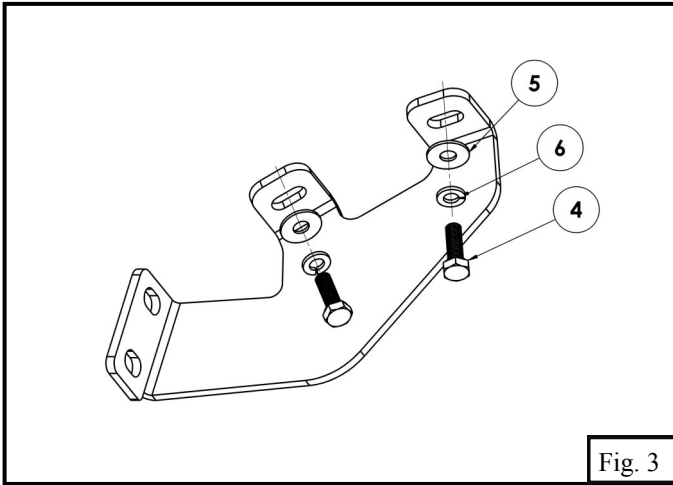

Fig. 3
3. Locate Front Mount Bracket (Item 2) and loosely install using supplied M8 hardware. Repeat for all other mount locations. See **Figure 3**